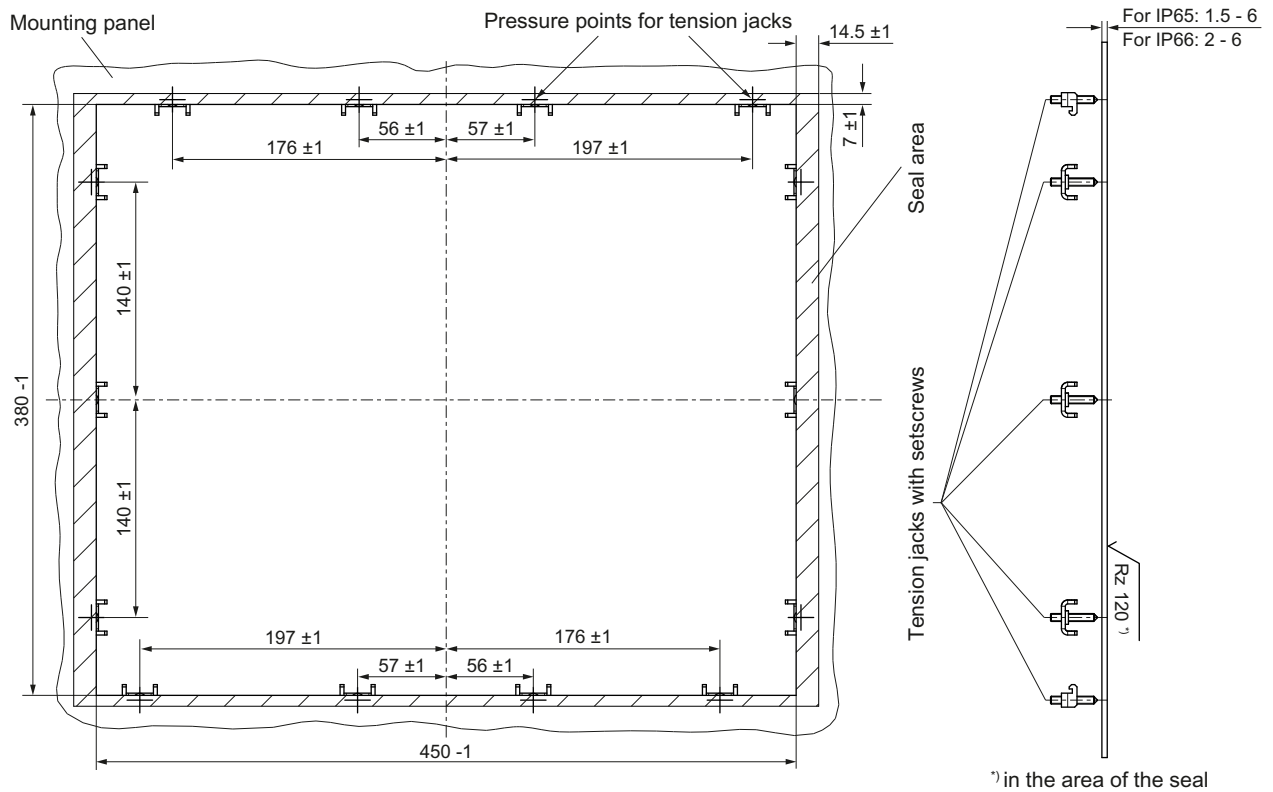

Figure 11-4 Dimension drawing for installing the OP 019 operator panel front
1. Install the assembled components (e.g. operator panel front and PCU) from the front into the panel cutout (see Figure 11-4 Dimension drawing for installing the OP 019 operator panel front (Page 185)).